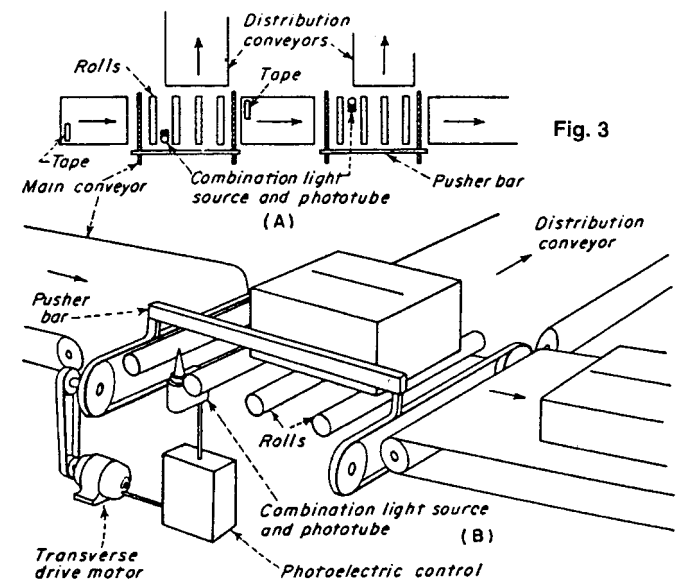

Fig. 3
**Fig. 3 This apparatus** sorts cartons of three different kinds of objects. Because the cartons containing objects differ widely in size, it is not feasible to sort by carton size and shape. A small strip of reflecting tape is put on the cartons by a packer during assembly. On one type of object, the strip is located along one edge of the bottom, and it extends almost to the middle. For the second type, the strip is located along the same edge, but from the middle to the opposite side. No tape is placed on the third type. Cartons are placed on the conveyor so that the tape is at right angles to the direction of travel. Photoelectric controls shown in A "see" the reflecting tape and operate a pusher-bar mechanism shown in B. This pushes the carton onto the proper distribution conveyor. Cartons without tape pass.